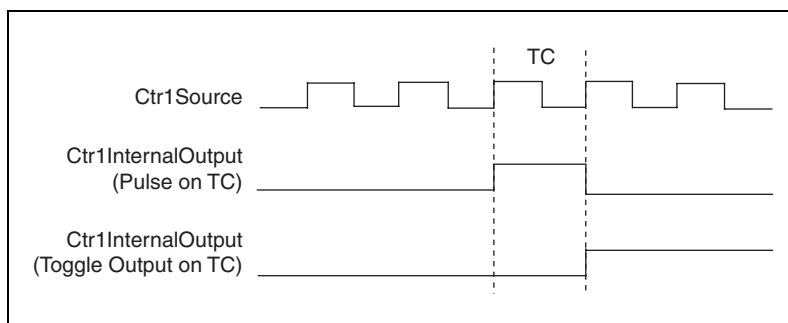

Figure 5-9. Ctr1InternalOutput Behavior
The Counter 1 Internal Output (Ctr0InternalOutput) signal is the output of Counter 1. This signal reflects the terminal count (TC) of Counter 1. The counter generates a terminal count when its count value rolls over. The two software-selectable output options are pulse on TC and toggle output polarity on TC. The output polarity is software-selectable for both options. Figure 5-9 shows the behavior of the Ctr1InternalOutput signal.